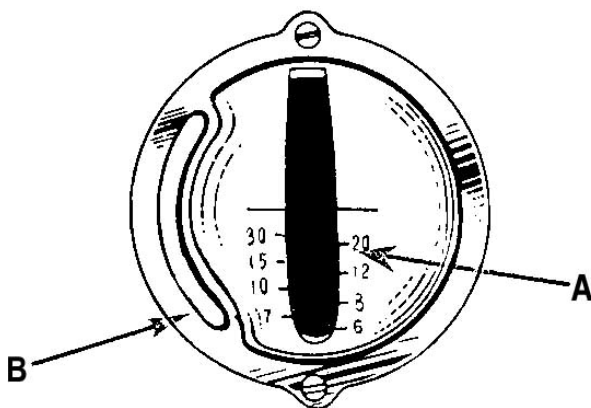

Fig. 12
With the needle raised and the threads drawn back at least 4 inches through the toes of the presser foot, place the material to be sewn beneath the presser foot and lower the presser foot lift lever. Turn the hand wheel toward you until the needle enters the material. Regulate the desired stitch length (Fig. 12) and start sewing.
Loosen the stitch length stop control (B, Fig. 12) and move it to the bottom of the slot. Move the stitch length lever (A, Fig. 12) to the desired stitch length. Now, move the stop control up until the control plate (visible in the stitch length slot) touches the bottom of the stitch length lever. Tighten the thumb screw (B) with finger pressure only. At this point, the stitch length is “marked,” and you can move the lever up to sew in reverse at approximately the same stitch length, and then return it to your desired forward length.